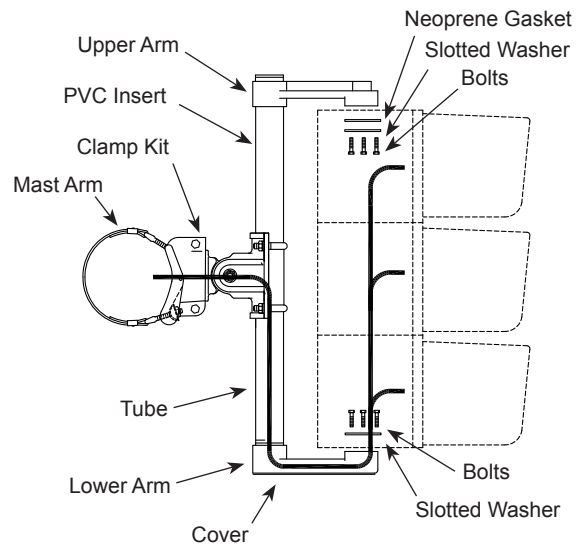

Figure 4
15. Position the lower arm centered on the signal with the tube channel in the back. Using the hardware kit(s) without the neoprene gasket(s), mount the arm to bottom of the signal(s). Torque the bolts to 6 ft-lb. DO NOT OVERTIGHTEN. (Figure 4)
17. Slide the upper arm(s) down over the top of the tube and secure to the signal(s) using the hardware kit(s) with the rubber gasket(s). (Figure 4)
22. Route the wiring through the tube, through the lower arm, and to the signal connections. (Figure 4)